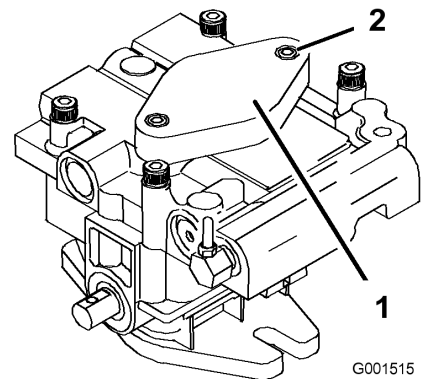

Figure 53
7. To prime the charge pump, loosen two hex socket head capscrews (Figure 53) 1-1/2 turns only. Make sure engine is not running. Lift charge pump housing upward and wait for a steady flow of oil to flow out from under housing. Retighten capscrews. Do this for both pumps.